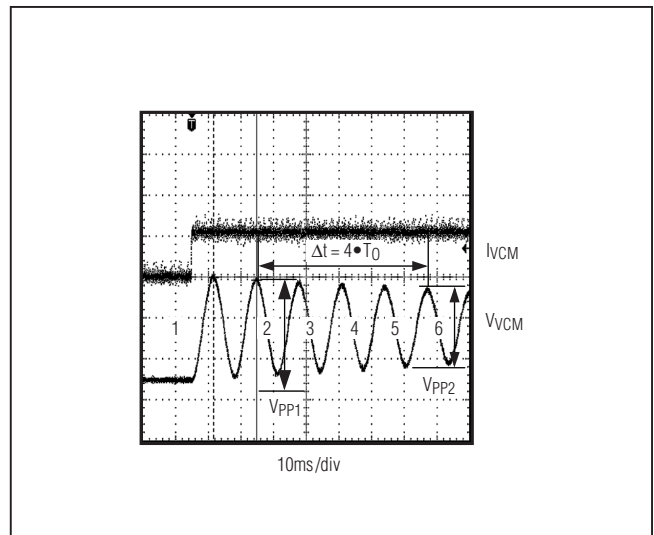

Figure 5. Step Response of Sample VCM
Below is an example calculation for setting  $f_0$  based on the step response of a VCM shown in Figure 5.
- 1) VCM step response shown in Figure 5.